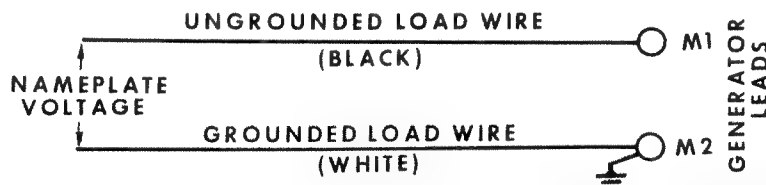

Fig. 12A 1 Phase, 2 Wire Revolving Armature Generator (60-cycle model has code -1 for 120 volt; or code -2 for 240 volt)
The plant nameplate shows the electrical output rating of the plant in watts, volts and cycles. The plant wiring diagram shows the electrical circuits and connections necessary for the available output voltage. Also see fig. 12A-F.
**LOAD WIRE CONNECTION (Dual Purpose Plant, 120-V. AC/32-V. DC).** - For connecting the 120-volt ac load, see figure 12A.